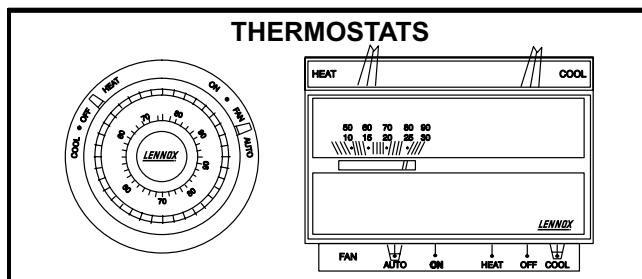

FIGURE 1
- 2 - Set the thermostat to the lowest setting. See figure 1.
- 6 - *White Rodgers 36E Gas Valve* - Turn knob on gas valve 180° either way to **OFF**. See figure 1.